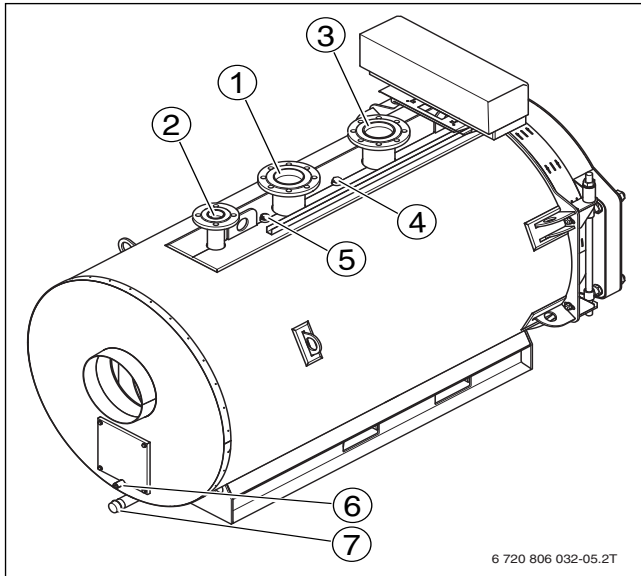
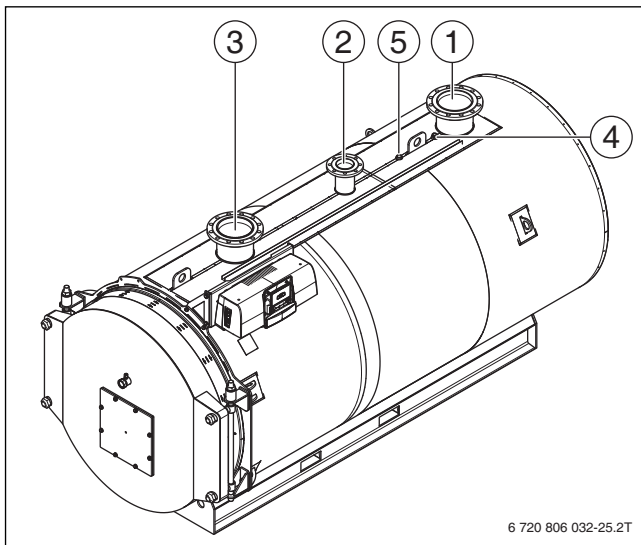

Fig. 16 Boiler Uni 3000 F 120 kW to 820 kW (left = rear of boiler)
Fig. 17 Boiler Uni 3000 F 1040 kW to 1850 kW (left = front of boiler)
- Connect the heating system return to the boiler return connection (→ Fig. 16 and Fig. 17, page 18, [3]).
- Connect the heating system flow to the boiler flow connection (→ Fig. 16 and Fig. 17, [1]).
- Fasten the pressure relief valve to the safety line flow connection (VSL) with screws (→ Fig. 16 and Fig. 17, [2]).